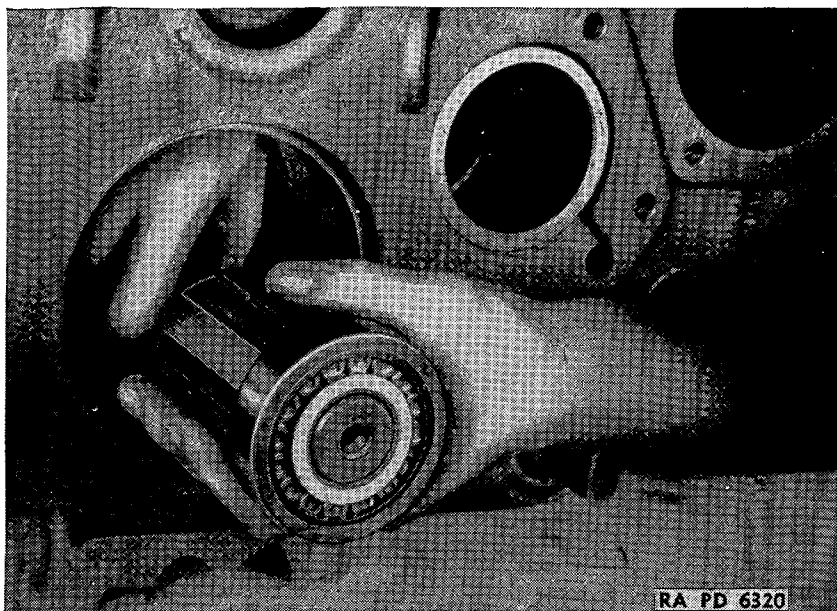

FIGURE 123.—Transfer case mainshaft removal.
(15) Remove transfer case mainshaft—brass drift, hammer. Drive or press on rear end of shaft until it is free from underdrive gear. Remove mainshaft (B184258) (fig. 123). Rear bearing thrust